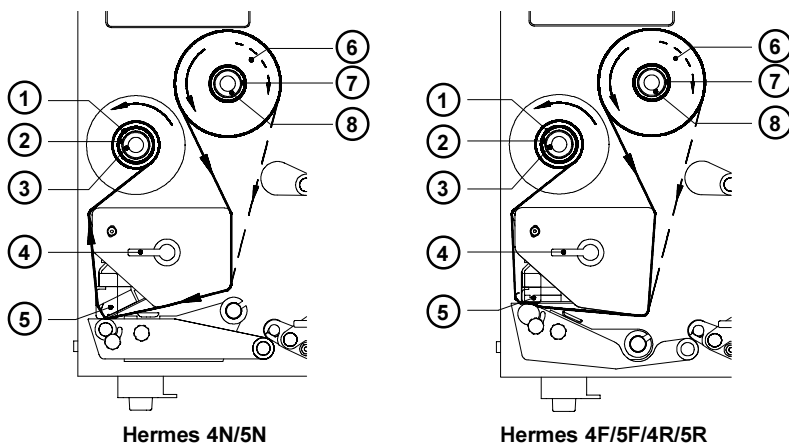

Fig. 6d Loading thermal transfer ribbon
In Figure 6d, the solid line shows the path of inside wound ribbon, and the broken line represents the path of outside wound ribbon.
3. Hold tight the ribbon supply hub (7) and rotate the knurled knob (8) clockwise until it stops. That way the transfer ribbon roll (6) will be attached to the ribbon supply hub (7).
4. Slide an empty cardboard core (1) onto the ribbon take up hub (2) and fix it by clockwise turning the knurled knob (3).
5. From the side, feed the transfer ribbon along the path as shown in Figure 6d, then attach it to the core (1) using adhesive tape or a label.
6. Turn take up hub (2) counterclockwise in order to smooth and stretch the ribbon.
7. To lock the printhead (5), turn the lever (4) counterclockwise until it stops.